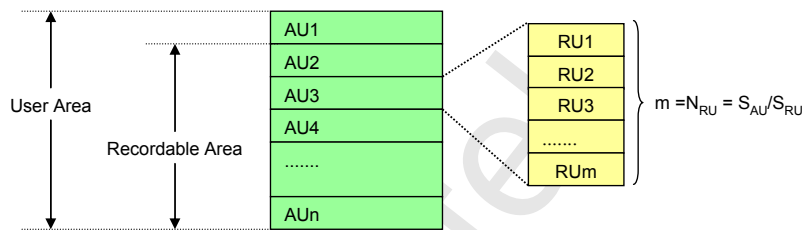

Figure 4-27: Definition of Allocation Unit (AU)
4.13.1 Allocation Unit (AU)
User Area is divided into units called “**Allocation Unit (AU)**” (Refer to Figure 4-27). Each card has its own fixed **AU Size (S_{AU})** and the maximum AU Size is defined depending on the card’s capacity. The host should manage data areas with the unit of AU. Several AUs from AU1 should not be used for real time recording because those may include system information. AV application should start recording from the first complete AU, to which only user data can be recorded. Note that this specification does not apply to Protected Area.
4.13.2 Recording Unit (RU)
Each AU is divided into units called “**Recording Unit (RU)**” (Refer to Figure 4-27). The **RU Size (S_{RU})** should be one or multiple of cluster size specified in the SD File System Specification. **The number of RUs in an AU (N_{RU})** is calculated from S_{AU}/S_{RU} .